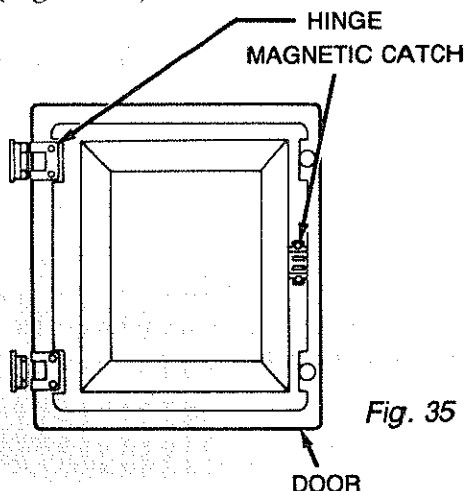

Fig. 35
2. Put a magnetic catch on the right edge of door. (Figure 35)
3. Fasten using two pan head screws, tighten with a Phillips screwdriver. (Figures 35 & 36)